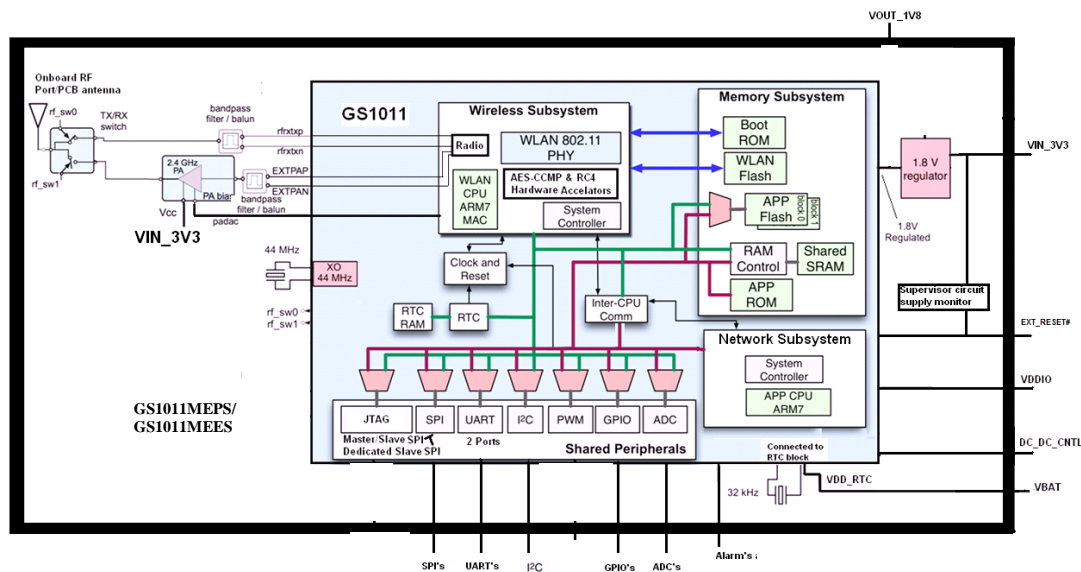

Figure 2-2: GS1011MEPS/GS1011MEES Block Diagram
- The extended range module option has a capability of +18dBm output power at the antenna (see Figure 2-2).